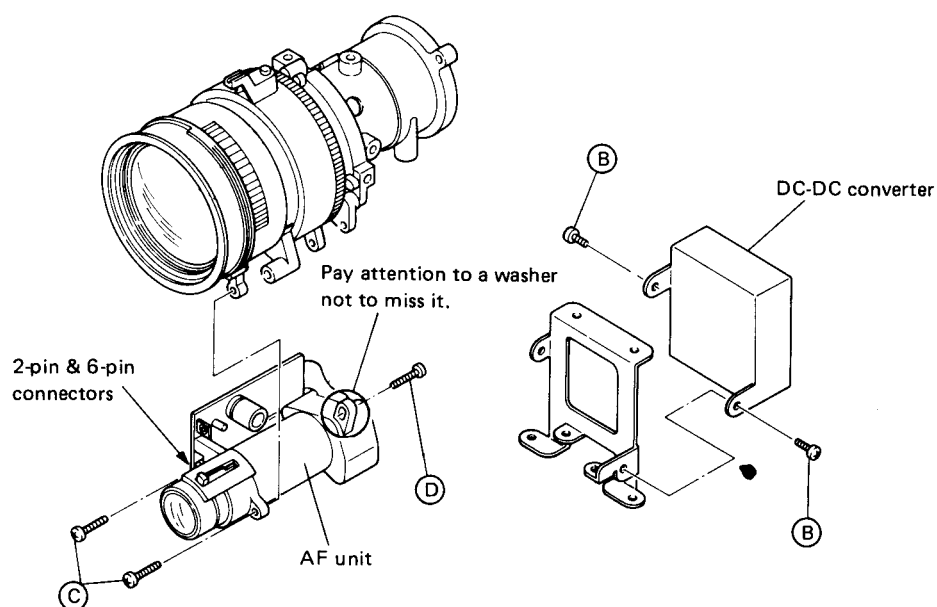

Fig. 1-3-3
5. The DC-DC converter can be removed by removing the two screws (B) securing the converter (see Fig. 1-3-3).
6. Remove the two screws (C) and one screw (D) securing the AF (auto focus) unit to remove it from the camera section.
8. When fitting the camera section with a new AF unit, first set the interlocking pin of the AF unit into the grooved rail on the focus ring and then tighten the two screws (C) in front of the AF unit (see Fig. 1-3-3).
9. Secure the AF unit with a screw (D) (Fig. 1-3-3) from the back. At this time, make sure to set a washer between the optical block and the AF unit, and (D), holding the AF unit in the direction of the arrow mark tighten the screw locating it around the center of the AF unit's slider plate.